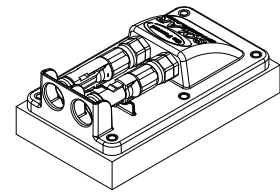

FIGURE 3-A: CEP
5. Identify on your RV if you have a **Cable Entry Plate (CEP)** see Fig 3-A pre-installed by the RV Manufacturer. The Cable Entry Plate makes the Solar Panel to Solar Charge Controller installation simpler. (After market purchase of GP-CEP available)